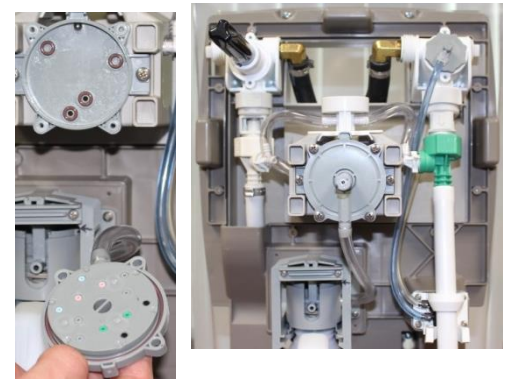

Fig. 1
- Identify proper location for new metering tips using diagram below. Numbers on disc correspond to numbers on dial label (Fig. 1 & 2). Circle is bottle fill, square is bucket fill.